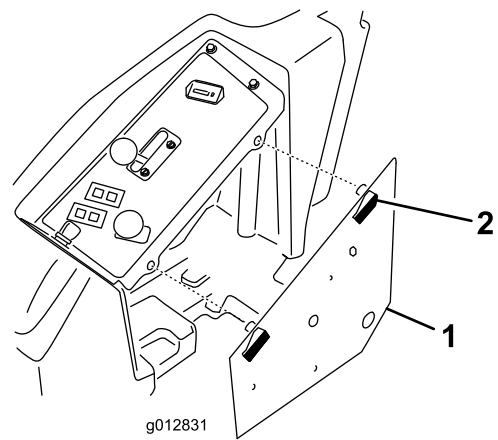

Figure 25
1. Relay (2)
43. Unlatch the control panel cover and move it aside (Figure 25).